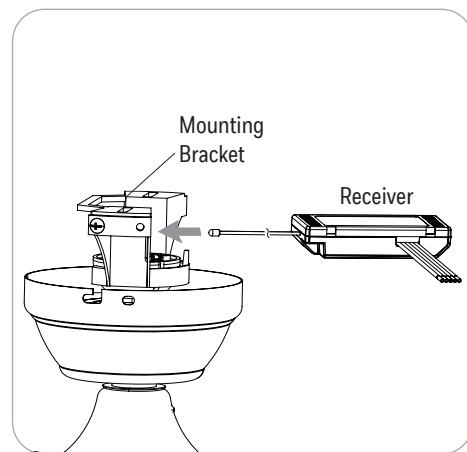

Figure 2.9
9. Insert the receiver into the opening of the mounting bracket with flat side facing the ceiling (Figure 2.9).